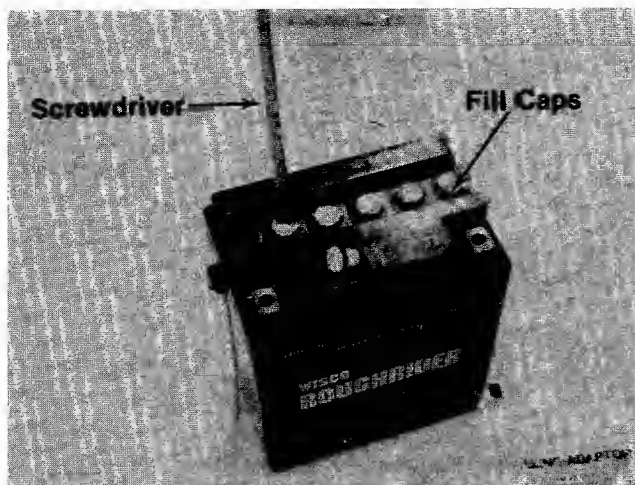

FIGURE 14.
4. Remove the six fill caps from the top of the battery with a screwdriver. Care should be taken not to damage the fill caps. See figure 14.